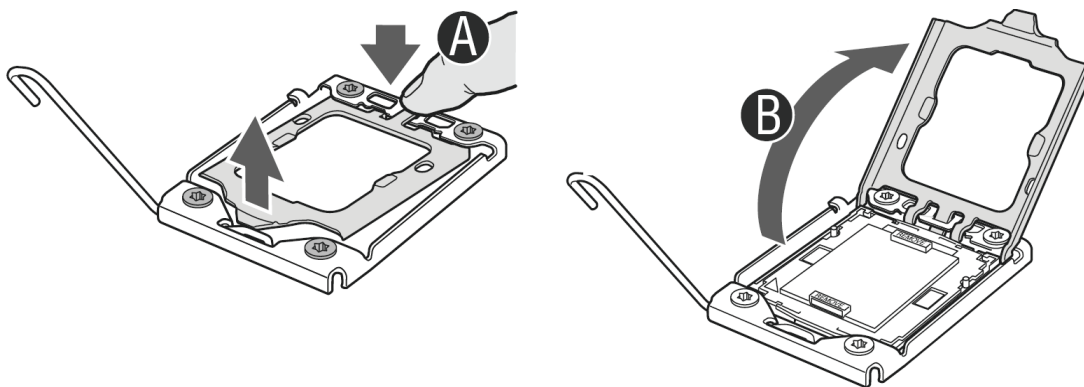

Figure 25. Opening Load Plate
9. Push the rear tab with your fingertip to bring the front end of the load plate up slightly. Open the load plate completely. See figure 25.